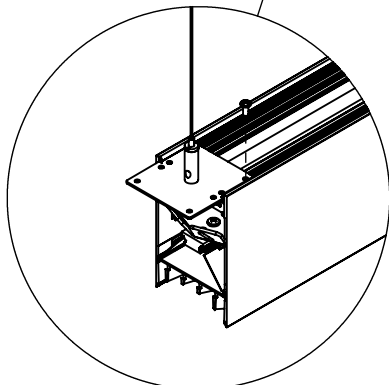

FIG 2
3. Remove single screw and store for later use, slide suspension plate away from the end of the fixture. (See FIG 2 & 3)